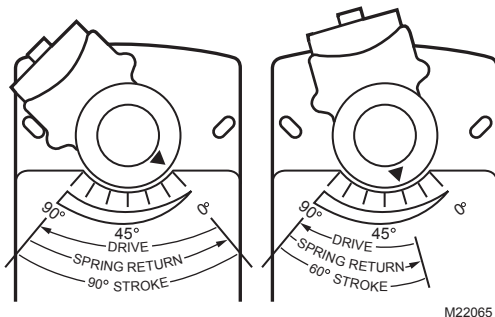

Fig. 6. Stroke reduction.
3. Rotate the coupling to the desired fail-safe position, aligning it based on the stroke labelling. See Fig. 6.
EXAMPLE: Setting shaft coupling to an approximate fail-safe position of 35 degrees (as indicated on the housing) limits stroke to 60 degrees. (See Fig. 6)